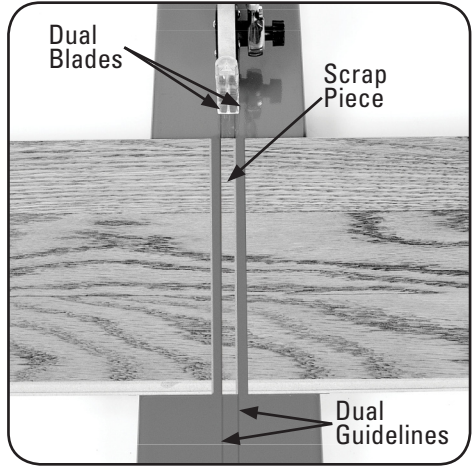

Figure B-1
3. The Floor Boar has a dual blade system. Position your marked cut line on one of the guidelines of the base to align the cut with the blades (**Figure B-1**). The two guide lines on the base provide a reference for the excess material that is being cut away during cutting and can also serve as guides to keep your cut straight. Make sure to position the side to be used outside the guidelines, with the “scrap portion” between the blades.